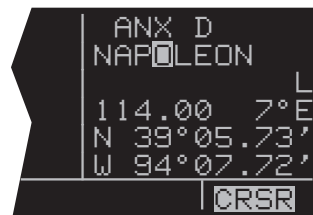

Figure 3-80
- Use the right outer knob and right inner knob as before to select the third character, "P", and fourth character, "O" (figure 3-80). Up pops Napoleon and its identifier, **ANX!**